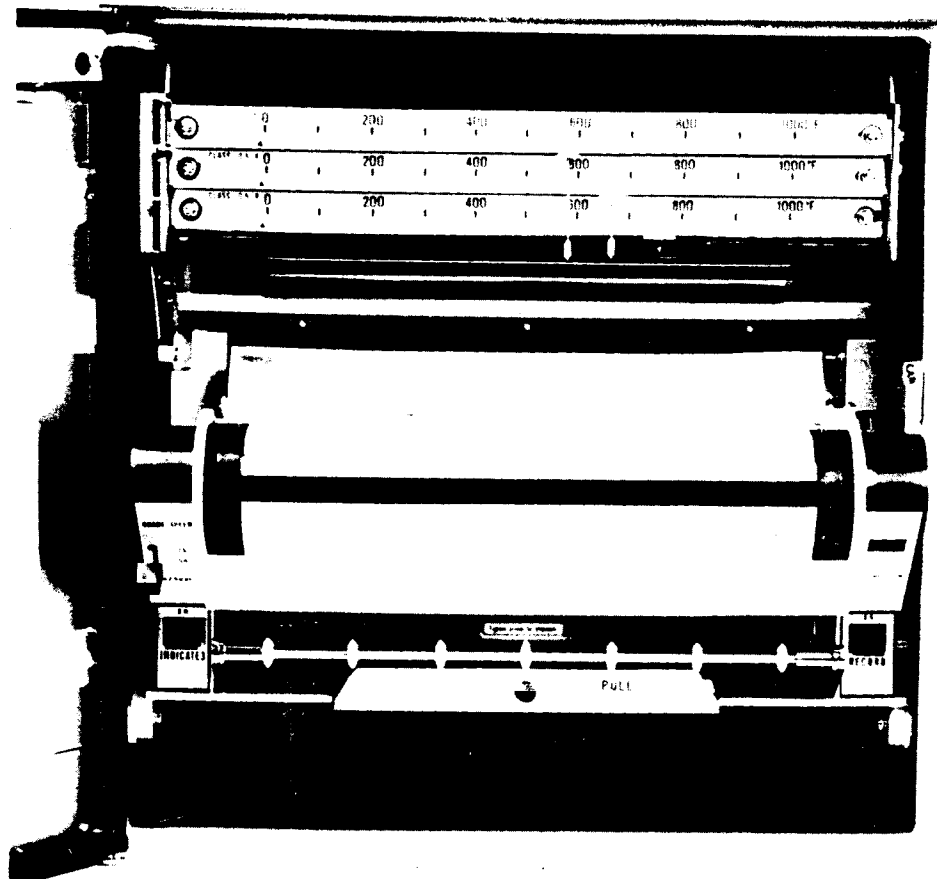

Figure 2-6. Inserting Paper
1. Pull finger grip firmly to open the protective glass door. The Chart Rack Release Lever is on the upper right side of the paper platen. Push the lever up to unlock the chart platen. Chart platen will swing forward to allow easy access to the paper bin. See Figure 2-6.